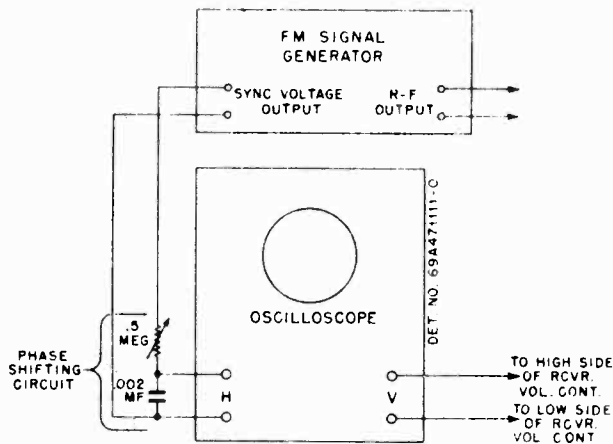

FIGURE 6:
3. Connect the FM signal generator sync voltage output terminals, through a phase shifting network, to the horizontal input terminals of the scope, as in Figure 6. (Other values of resistance and capacitance may be required, depending upon the scope). The phasing control should be adjusted to give only one trace on the scope. NOTE: If the FM generator has a built-in phase control, the phase shifting network is not necessary.